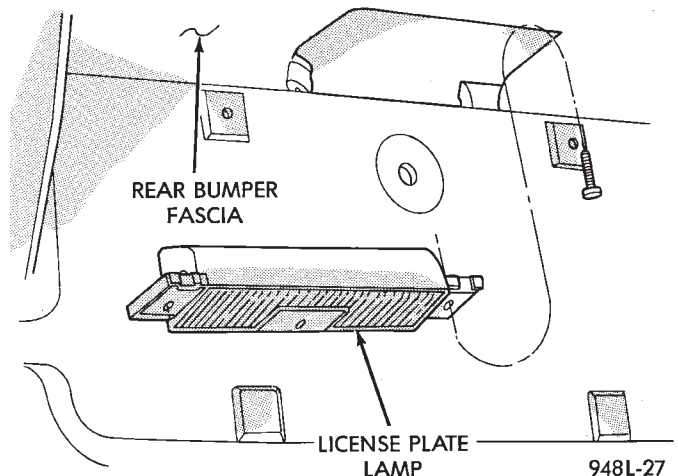

Fig. 8 License Plate Lamp
- (1) Remove screws holding license plate lamp to rear bumper fascia (Fig. 8).
- (2) Separate license plate lamp from rear bumper fascia.
- (3) Remove socket from lamp.
- (4) Separate license plate lamp from vehicle.